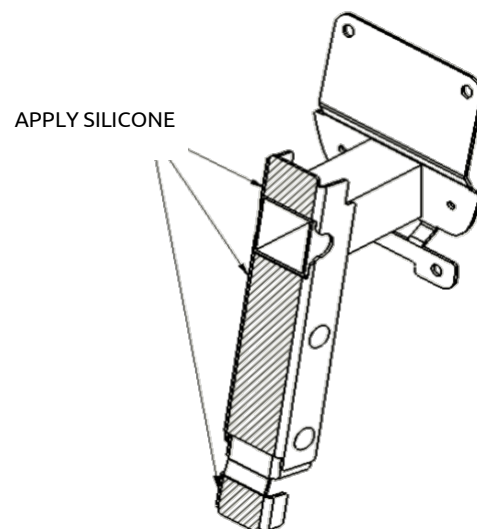

Figure 13
- d. With partner inside truck, install the (12) ¼-20 x 1" hex bolts with flat washers through the drilled holes and backing plates CBPD/CBPP, and fasten with flat washers and locknuts on the inside – don't fully tighten yet.
- f. Tighten the (12) ¼-20 x 1" bolts securely now.
- a. Apply silicone to center bracket faces (see figure 13)
- c. Fully extend all (3) LVM's